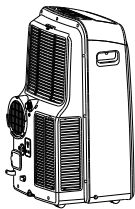

Fig.22
- Remove the bottom drain plug and water will begin to drain out. Fig.22
- Drain water from the bottom tray by removing the plug from the bottom drain outlet (See Fig.22).